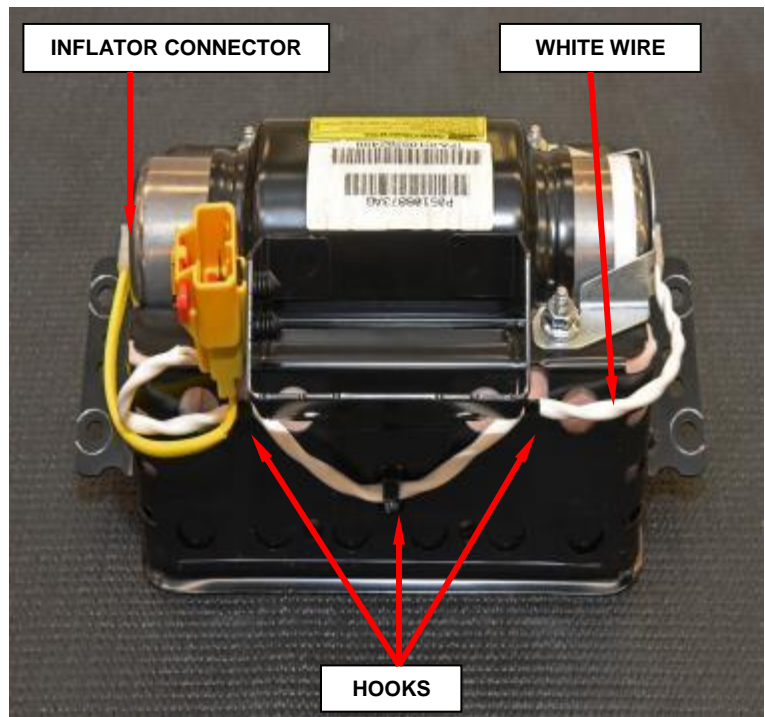

Figure 73 – Retrofit Complete
- r. Attach the white wire to the three hooks on the housing (Figure 73).
- t. Connect the single yellow wire inflator connector to the end of the inflator after removing the protective tape from the end of the inflator (Figure 73).
- u. Passenger airbag retrofit is complete (Figure 73).